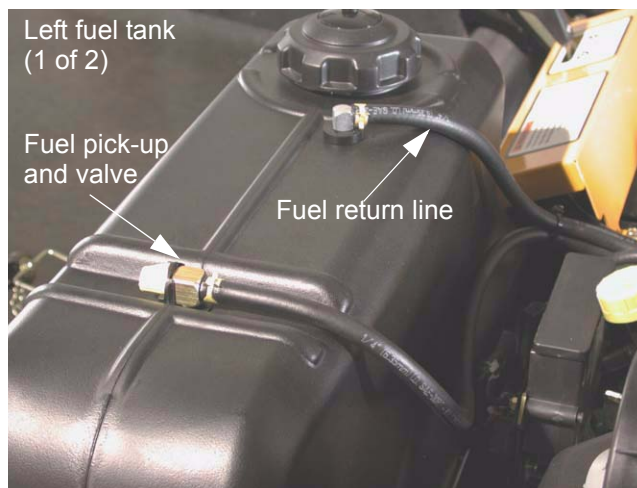

Figure 10.3
- 10.3. Because there is more fuel supplied to the injectors than the engine will consume, return lines route the excess volume back to the fuel tanks. See Figure 10.3.